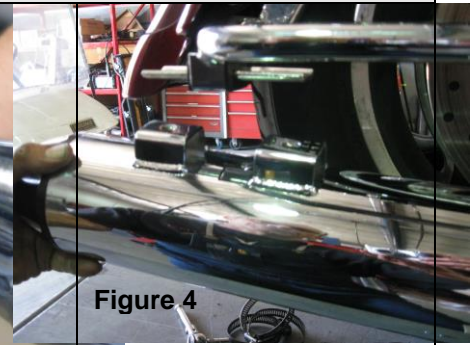

Figure 4
3. Tighten clamp and secure the muffler to the rear bracket under the bags with the supplied 5/16" x 3/4" hex bolts and lock washers. (Figure 4)